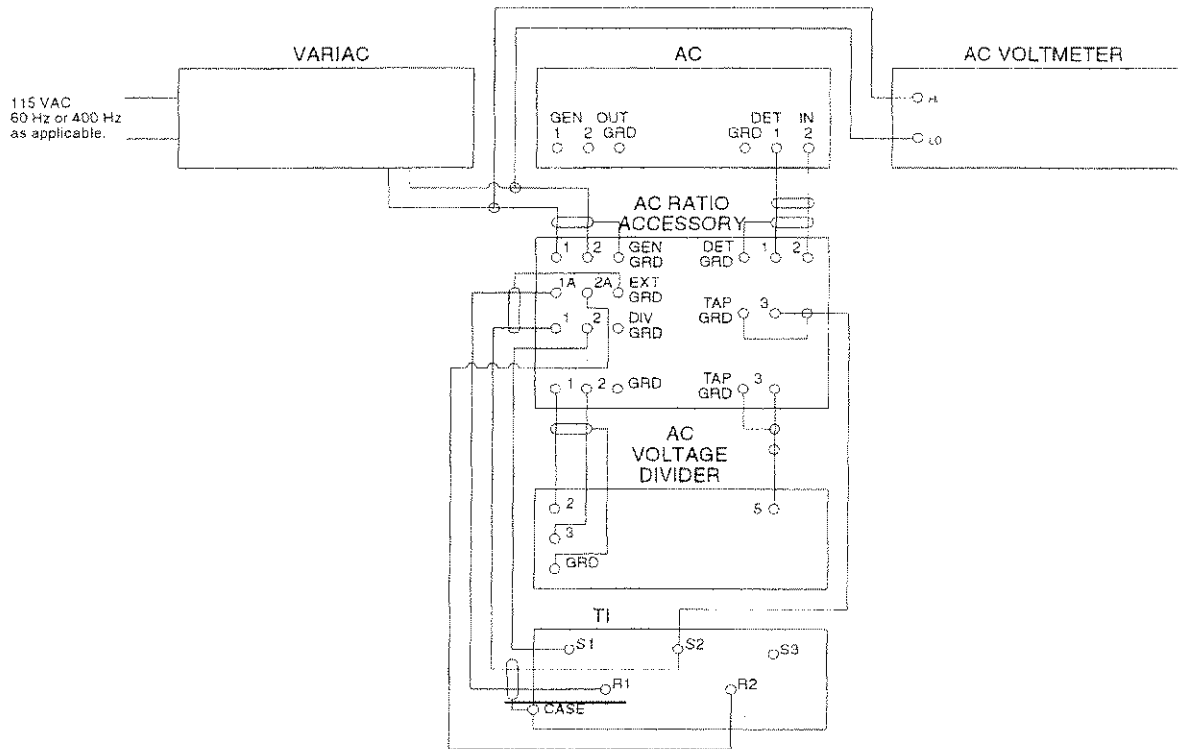

Figure 1.
3.4 Determine the voltage and frequency requirements of TI and connect equipment as shown in Figure 1 using the applicable Variac.